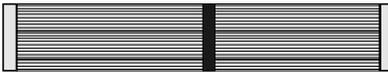

Figure 1-1 UDMA-66/100 IDE cable
- ❑ One 40-pin (80-wire) UDMA-66/100 IDE connector ribbon cable (Figure 1-1)